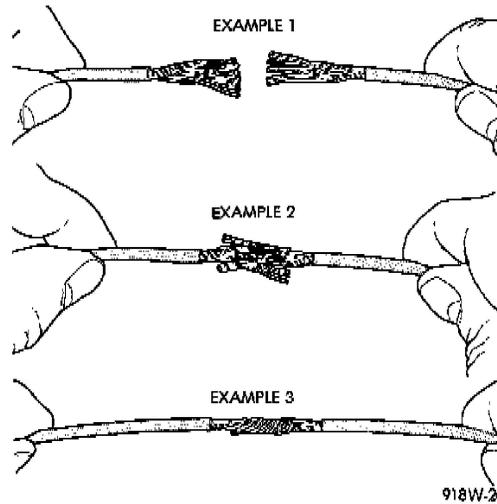

FIGURE 6 - Wire Repair
5. Spread the strands of the wire apart on each part of the exposed wire (Example 1) (Figure 6).
6. Push the ends of the two wires together until the strands of wire are close to the insulation (Example 2) (Figure 6).
7. Twist the wires together (Example 3) (Figure 6).